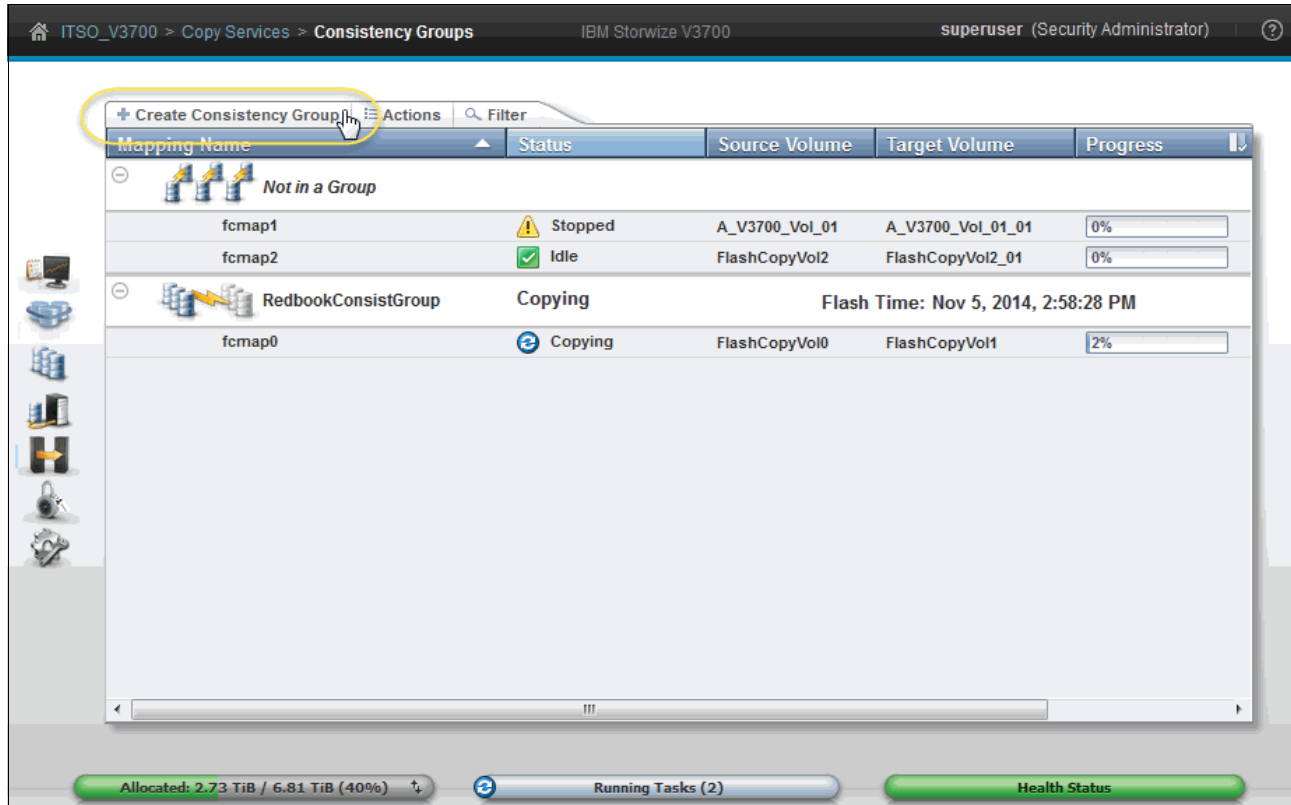

Figure 10-54 New Consistency Group option
1. Click **Create Consistency Group** at the top of the Consistency Groups window, as shown in Figure 10-54.